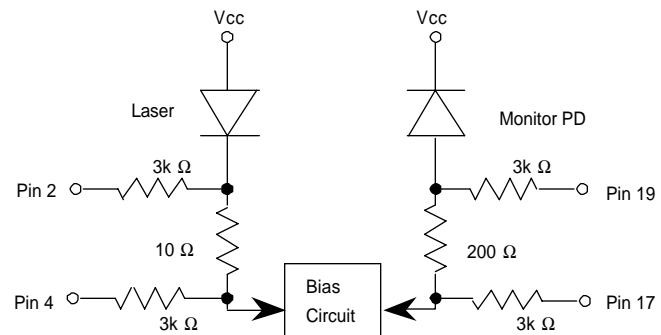

Figure 3 Monitor Circuit Schematic Diagram
Note 1. Input bias current is not included. 2. 50% duty cycle data 3. 622.08Mbps 4. Vcc-Vee=5.0V 5. Tc=25°C 6. 20~80% 7. The transmitter is enabled as default state and requires an external voltage only to disable. (Refer to Section 9. Relation between Disable Input Voltage and Optical Output Power) 8. The Laser Bias and Rear Facet Monitor currents are calculated as ratios of the corresponding voltages to their current-sensing resistors, 10Ω and 200Ω, respectively (See Figure 3). Upon measuring or utilizing these values, please use a device whose impedance is high enough (>1MΩ) compared with those resistors.
3. Please refer to Figure 3 for Pin 2, 4, 17, 19.